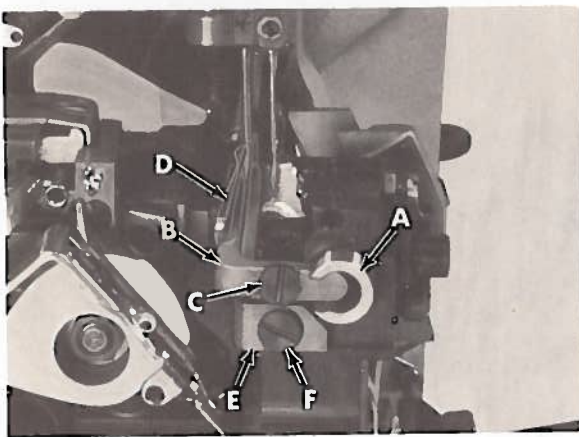

Fig. 10
Remove spring from inside of lower knife holder (A, Fig. 10) and assemble lower knife holder into throat plate support block. Replace rear needle guard (B) using screw (C) with front edge of guard centered in slot of knife holder (A) as shown. Tighten screw (C) temporarily to hold guard in position yet allows it to be moved. Rotate handwheel in operating direction so the lower overedge looper (D) moves from the extreme left position into the scarf of rear needle. Move guard (B) forward until the front guarding surface contacts the needle but does NOT deflect it. Set guard as low as possible so that it will not interfere with needle thread as loop is formed to rear of needle. Tighten screw (C) securely. Guard should not interfere with lower knife holder movement or contact lower overedge looper at any point.
Assemble front overedge needle guard (E, Fig. 10) to throat plate support using screw (F). Rotate handwheel in operating direction to position needle at bottom of stroke. Set guard to needle with minimum clearance - approximately .004 inch (.10mm). Tighten screw (F) securely. DO NOT PINCH NEEDLE BETWEEN FRONT AND REAR GUARDS.